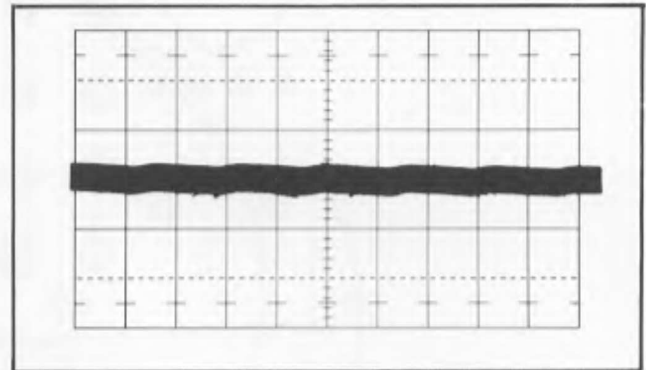

Fig. 6-5. Typical test oscilloscope display of power supply ripple (60-cycle line) vertical deflection, 0.5 volts/div, sweep rate 5 msec/div.
- Check—regulation and ripple of the power supplies while changing the input supply voltage between 94.5 to 137.5 VAC (or 189 to 275 VAC). Power supply test points are shown in Fig. 6-4. Power supply specifications are shown in Table 6-1 and a typical test oscilloscope display of the ripple is shown in Fig. 6-5. Disregard high frequency hash, spikes, transients, etc.
- Return autotransformer output to 115 (230) volts. If the line voltage is approximately 115 (230) volts, the Type 184 may be connected directly to the line for the remainder of the calibration procedure.